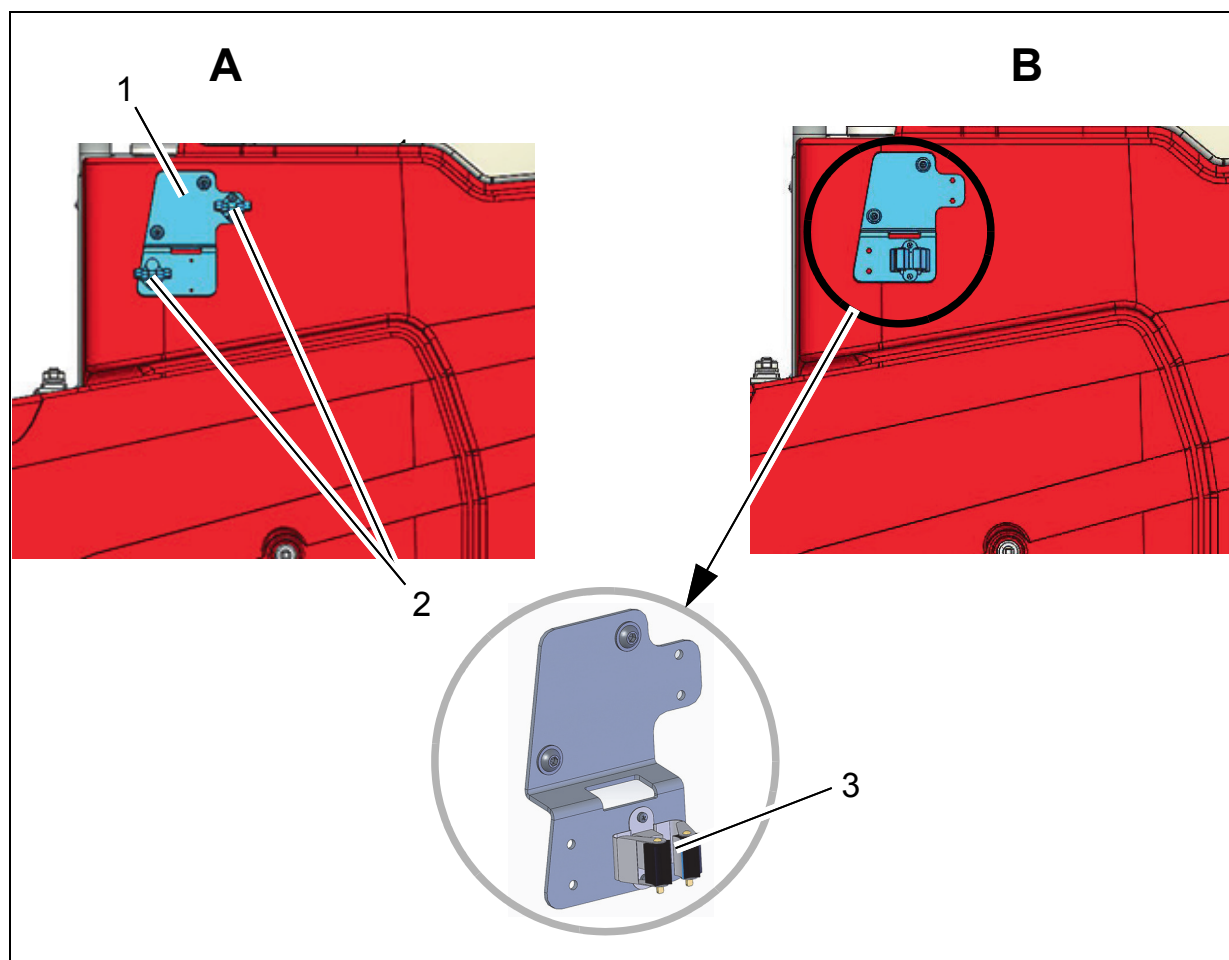

Fig. 2
For manual suction tool (Fig. 2/A)
Holder, pre-assembled (Fig. 2/1) with flanged button head bolts M8x12 and washers 8.4, fit to left-hand side of machine as shown in the illustration. Maximum tightening torque 10 Nm.
For mop (Fig. 2/B)
Machine with rotating brush(Fig. 2/A)
1. Slacken M8x25 fastening screws of the side scraper a little (Fig. 2/1).
Slide set-down plate until it comes up against the slackened screws (Fig. 2/2).
Machine with roller brush (Fig. 2/B)
1. Slacken M8x25 fastening screws of the side scraper a little (Fig. 2/3).
2. Guide the set-down plate through the opening of the scraper (Fig. 2/4).
3. Slide set-down plate until it comes up against the slackened screws (Fig. 2/5).